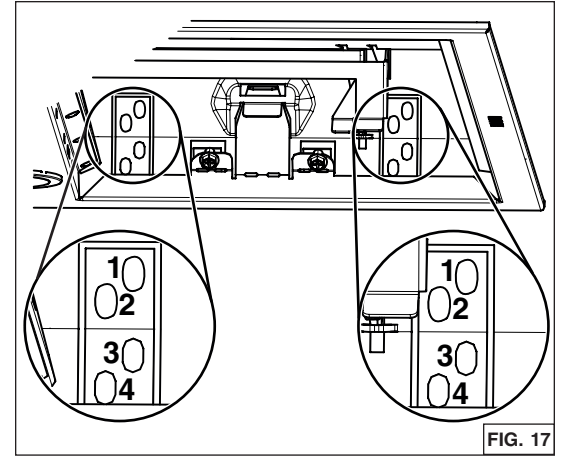

FIG. 17
- Lift the unit until contact is made between the unit flange and cabinet. Secure the unit to the cabinet using 4 no. 8 x 5/8" wood screws included in parts bag (2 screws per side). Use upper or lower holes (**1, 2, 3 or 4**) (FIG. 17).